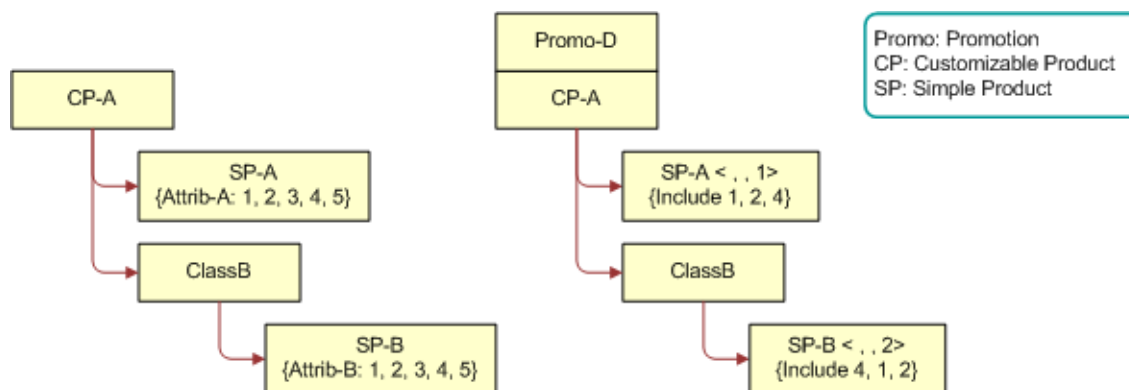

Figure 12. Product Structure for CP-A and Promo-D
- 1 A customizable product named CP-A is defined and a promotion named Promo-D is defined as shown in Figure 12.
Figure 12 shows a product named CP-A with the following structure: CP-A has a simple product relationship named SP-A defined and a Product Class named ClassB. Another simple product relationship named SP-B is defined and associated with ClassB. SP-A is associated with an attribute, Attrib-A, which has the values {1,2,3,4,5}. SP-B is associated with an attribute, Attrib-B, which has the values {1,2,3,4,5}.
Figure 12 shows a promotion named Promo-D, where CP-A has the following structure: CP-A has a simple product relationship named SP-A defined and a Product Class named ClassB. Another simple product relationship named SP-B is defined and associated with ClassB. For SP-A, Default is set to 1 and the attribute values 2 and 4 (of Attrib-A) are included for this relationship. For SP-B, Default is set to 2 and the attribute values 4, 1, and 2 (of Attrib-B) are included for this relationship.